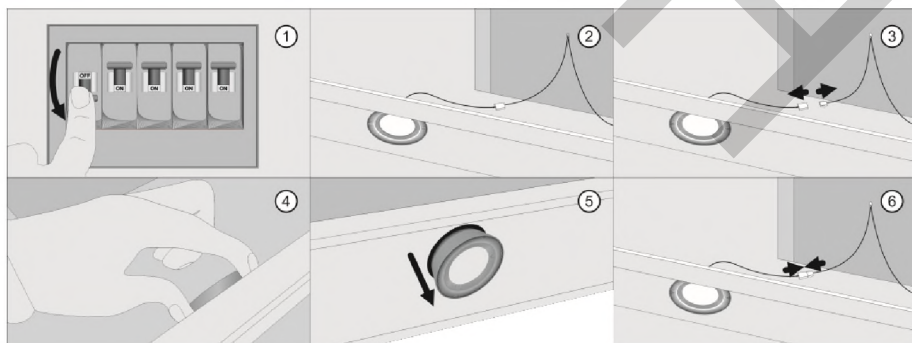

Fig. 15 Light lamps changing
1. Raise the cooker hood glass up and remove aluminum fat filter (Fig. 15. 2)
2. Disconnect the connector of lamp power supply cable by pressing the latch (Fig. 15. 3)
3. Find two lamp fixing plates inside the cooker hood, press it with fingers and push the lamp down (Fig. 15. 4, 5)